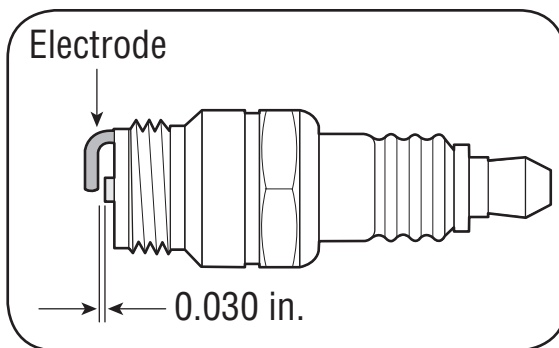

Figure 10-4
3. Measure the plug gap with a feeler gauge. Correct as necessary by bending side electrode. See Figure 10-4. The gap should be: 0.030 in.